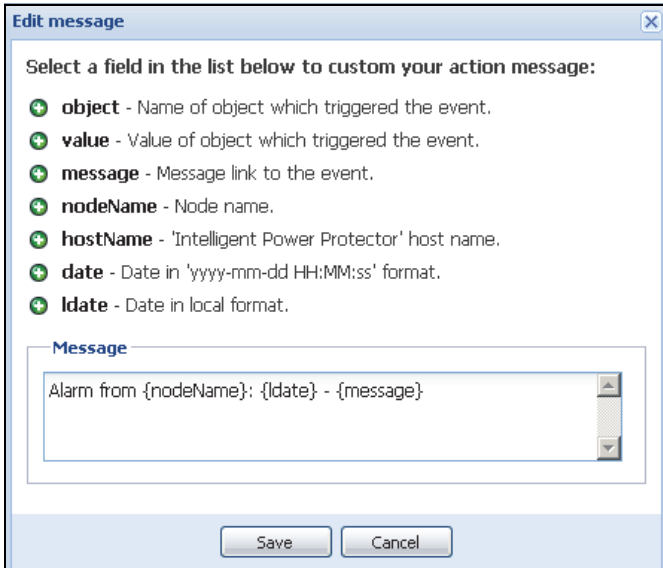

Figure 31. Edit Message Dialog Box
- Click the “plus”  button to add a variable (see Figure 31).